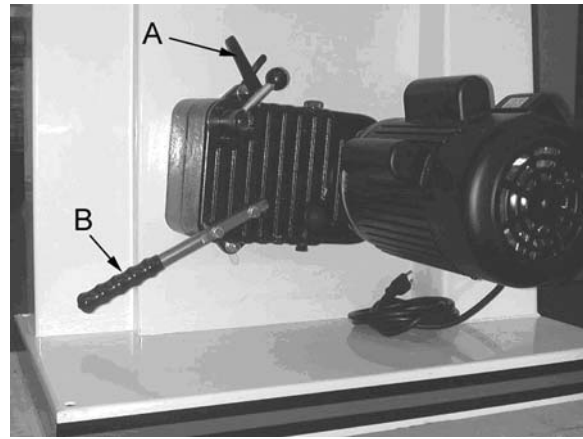

Figure 29
Referring to Figures 29 and 30:
1. Release belt tension by loosening the handle (A, Figure 29).
2. Set the belt tension by lightly pressing down on the lever (B, Figure 29). The weight of the motor/gearbox should put enough tension on the belt. You just want to push down lightly to take up any slack.
3. Tighten the handle (A).